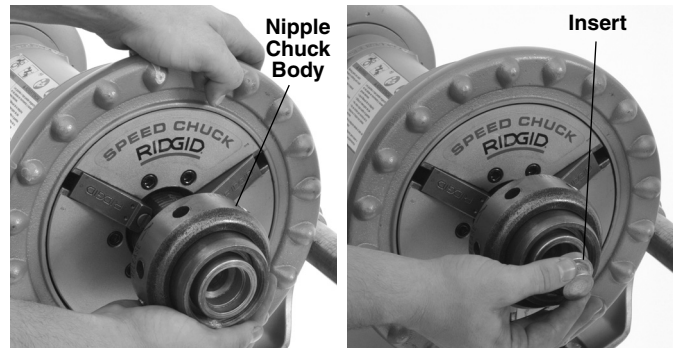

Figure 2 – Installing Nipple Chuck and Insert
7. If needed, install the insert (*Figure 2*):